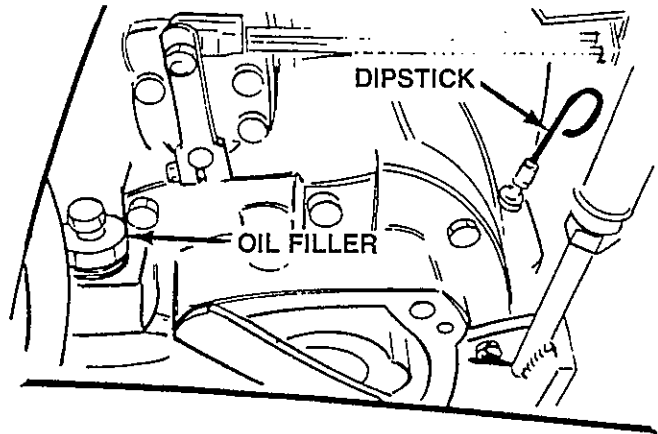

Figure 5-4 Checking Transmission Oil Level
8. See Figure 5-4. Check transmission oil level. Pull out dipstick and make sure level is up to FULL mark.